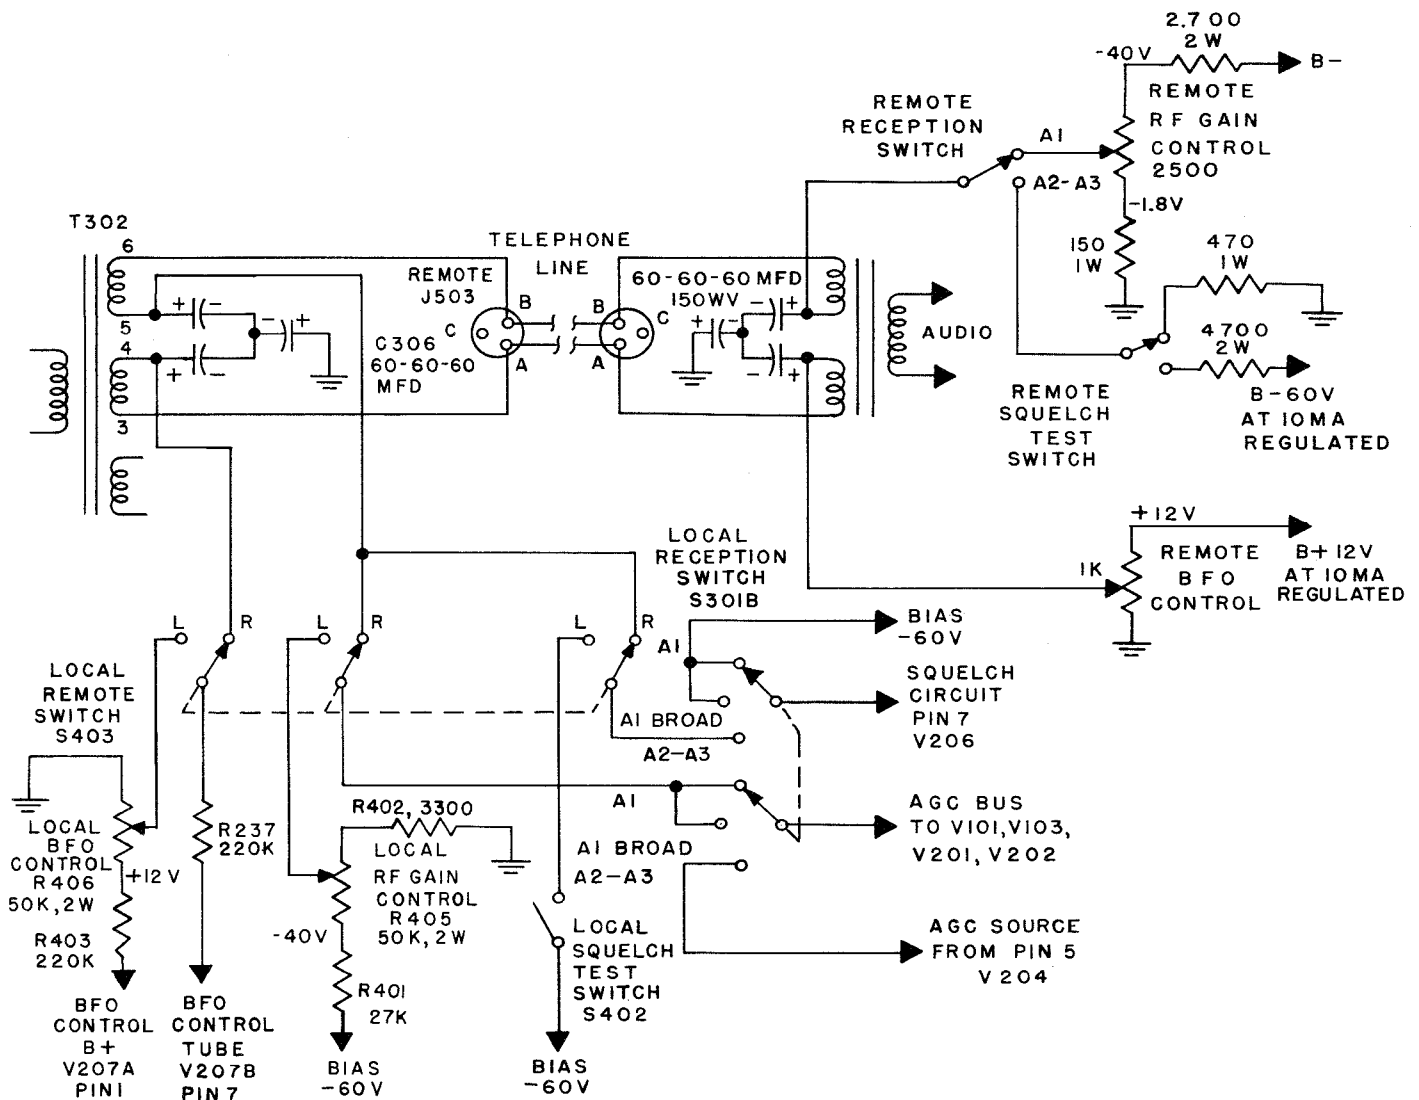

Figure 2-24. Simplified Schematic, Remote Connections
d. REMOTE CONTROL FUNCTIONS.—Figure 2-24 shows a schematic wiring diagram for the remote control connections. The high level output winding of audio output transformer T302, terminals 3, 4, 5 and 6, has its center tap effectively bypassed for AC by a triple section electrolytic capacitor C306. This capacitor permits the connection of DC control functions to pins 4 and 5 without grounding out these voltages. The audio present across the entire winding from terminals 3 to 6 is coupled through pins A and B of REMOTE receptacle (J503) over a remote line (telephone) to REMOTE isolation line transformer with a 1:1 transformation ratio and a split primary which duplicates winding 3, 4, 5 and 6 of T302. A low resistance ground must be connected from the grounded side of C306 in the AN/-
The remote BFO control should provide an adjustable voltage from 0 to +12 volts utilizing a potentiometer with the same taper as the local BFO control (R406). As can be seen from figure 2-24, the positive remote BFO control voltage is connected to the lower half of the remote transformer primary winding, through pin A of J503, through secondary winding 3-4 of T302 and thus to the REMOTE position of the LOCAL-REMOTE switch (S403). The local BFO control (R406) is connected to the LOCAL position of the LOCAL-REMOTE switch (S403). A remote RECEPTION switch must be provided so that either of the two control functions applied to the other side of the telephone line can be selected. Figure 2-24 indicates the remote RECEPTION switch. When switched to A1, it connects the RF gain control voltage from the remote RF GAIN control through the remote RECEPTION switch to the upper side of the telephone line. This function passes through pin B of J503 and through T302 winding 5-6 and is then connected to two REMOTE contacts of the LOCAL-REMOTE switch (S403). The local RF GAIN control (R405) is connected to a LOCAL contact of the LOCAL-REMOTE switch (S403). Therefore, either the
local or remote RF GAIN controls can be selected to control the RF gain circuits of the receiver through RECEPTION switch S301B during A1 and A1 BROAD reception. The RF gain control voltages are applied to the AGC bus and thus to V101, V201 and V202 in order to control the over-all receiver gain. When the remote RECEPTION switch is set for A2-A3 reception, a negative voltage of 60 volts can be applied at the will of the operator through the remote SQUELCH test switch as indicated, and through a limiting resistor over the upper telephone line wire to the same two remote contacts of the LOCAL-REMOTE switch utilized by the remote RF GAIN control circuit. A negative voltage of -60 volts can be applied through the local SQUELCH test switch (S402) to the local position of the LOCAL-REMOTE switch (S403). As can be seen from figure 2-24, the V206B squelch tube grid can be connected through the A2-A3 position of the RECEPTION switch (S301B) to either the local or remote SQUELCH test switch.